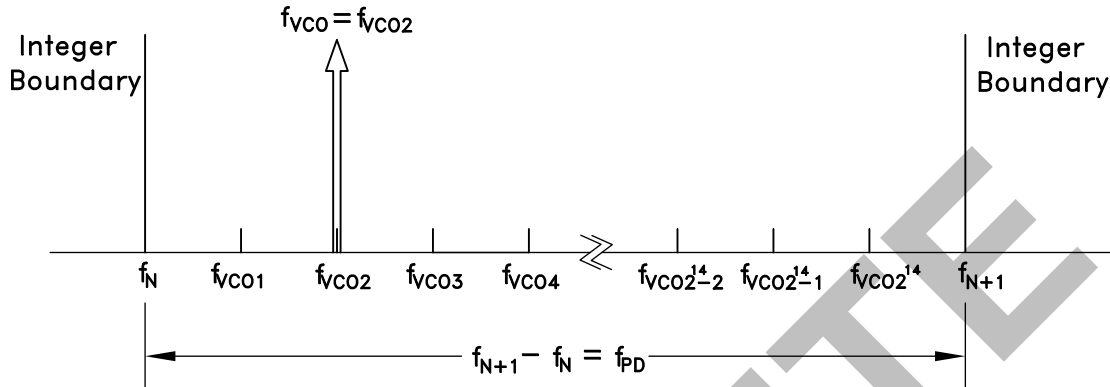

Figure 71. Exact Frequency Tuning
and fVCOk are the channel step frequencies where 0 < k < 224-1, As shown in Figure 71.
Some fractional PLLs are able to achieve this by adjusting (shortening) the length of the Phase Accumulator (the denominator or the modulus of the Delta-Sigma modulator) so that the Delta-Sigma modulator phase accumulator repeats at an exact period related to the interval frequency ( $f_{VCOk} - f_{VCO(k-1)}$ ) in Figure 71. Consequently, the shortened accumulator results in more frequent repeating patterns and as a result often leads to spurious emissions at multiples of the repeating pattern period, or at harmonic frequencies of  $f_{VCOk} - f_{VCO(k-1)}$ . For example, in some applications, these intervals might represent the spacing between radio channels, and the spurious would occur at multiples of the channel spacing.
If it is desirable to have multiple, equally spaced, exact frequency channels that fall within the same interval (ie.  $f_N \leq f_{VCO_k} < f_{N+1}$ ) where  $f_{VCO_k}$  is shown in Figure 71 and  $1 \leq k \leq 2^{24}$ , it is possible to maintain the same integer-N (Reg 03h) and exact frequency register (Reg 0Ch) settings and only update the fractional register (Reg 04h) setting. The Exact Frequency Channel Mode is possible if (EQ 16) is satisfied for at least two equally spaced adjacent frequency channels, i.e. the channel step size.
To configure the HMC1190LP6GE for Exact Frequency Channel Mode, initially and only at the beginning, integer (Reg 03h) and exact frequency (Reg 0Ch) registers need to be programmed for the smallest  $f_{VCO}$  frequency ( $f_{VCO1}$  in Figure 71), as follows:
1. Calculate and program the integer register setting Reg 03h =  $N_{INT} = \text{floor}(f_{VCO1}/f_{PD})$ , where  $f_{VCO1}$  is shown in Figure 71 and corresponds to minimum channel VCO frequency. Then the lower integer boundary frequency is given by  $f_N = N_{INT} \cdot f_{PD}$ .
$\text{Reg04h} = N_{FRAC} = \text{ceil}\left(\frac{2^{24} \cdot (f_{VCO_k} - f_N)}{f_{PD}}\right)$  where  $f_N = \text{floor}(f_{VCO1}/f_{PD})$ , and  $f_{VCO1}$ , as shown in Figure 71, represents the smallest channel VCO frequency that is greater than  $f_N$ .
4. To change from channel 1 ( $f_{VCO1} = 2800.2$  MHz) to channel 2 ( $f_{VCO2} = 2800.3$  MHz), only  $\text{Reg } 04h$  needs to be programmed, as long as all of the desired exact frequencies  $f_{VCOk}$  (Figure 71) fall between the same integer-N boundaries ( $f_N < f_{VCOk} < f_{N+1}$ ). In that case